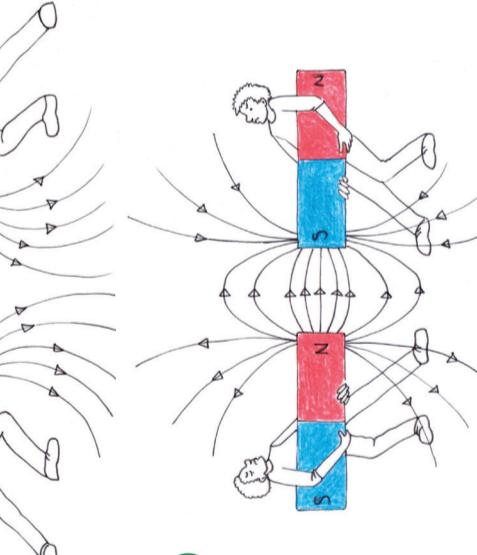

Figure 7
Bring the north pole of the magnet in your hand close to the north pole of the magnet on the desk. Write down what happens when you bring the north poles of the two bar magnets closer together (Figure 7(a)).
2. Now bring the south pole of one of the bar magnets close to the south pole of the other bar magnet. Write down what happens when you bring the south poles of the two bar magnets closer together (Figure 7(b)).
3. Now bring the north pole of one bar magnet close to the south pole of the other bar magnet. Write down what happens when you bring the north pole close to the south pole (Figure 7(c)).
The lines in the drawing should look like the lines drawn in Figure 7(c)
- Do your field lines look like those in Figure 7(c), where the magnets attract each other?
The lines in the drawing should look like the lines drawn in Figures 7(a) and (b).
- Do your field lines look like those in Figures 7(a) and (b), where the magnets repel each other?